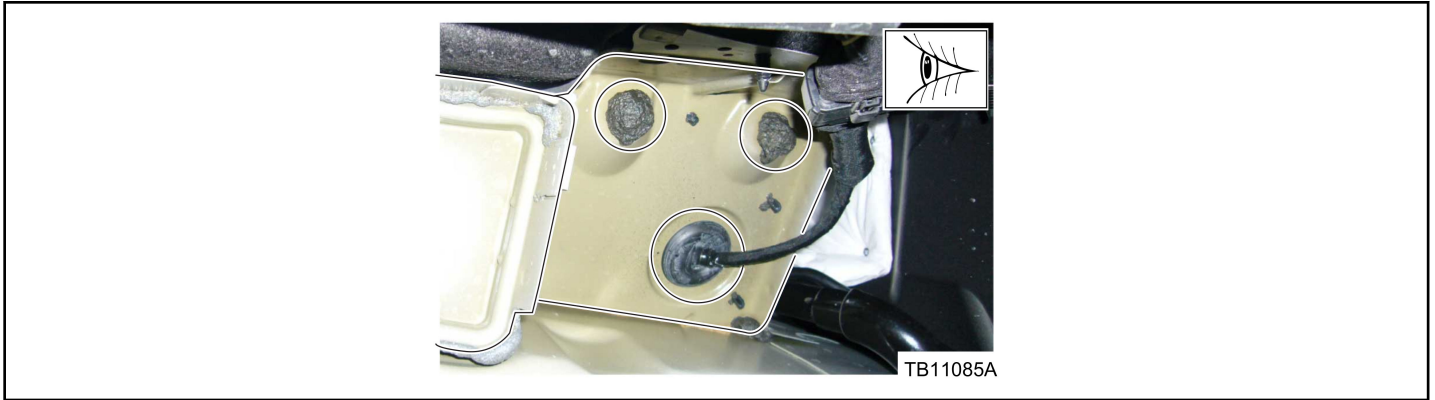

Figure 17 - Article 17-0044
15. Inspect the seams of all joined panels at the rear underside of the vehicle for any gaps or missing seam sealer. (Figure 17)